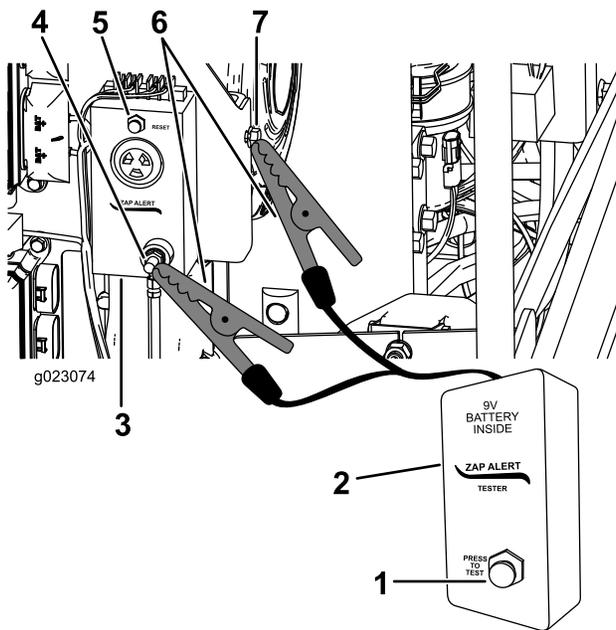

Figure 30
3. Connect an alligator clip from the Zap-alert tester to the grounding stud on the Zap-alert system (Figure 30).
5. Press the TEST button on the Zap-alert tester (Figure 30).
6. Press the ZAP-ALERT RESET button to stop the alarm (Figure 30).